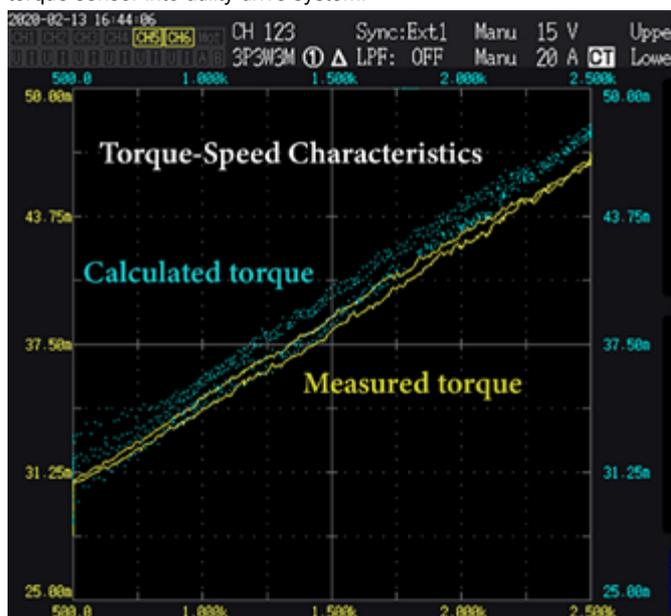

Figure 6: Comparison of measured and calculated torque
Figure 6 shows the calculated and measured torque. Calculated torque is derived by equation (12) with use of derived motor parameters (L_d , L_q), control parameters (i_d , i_q) and K_e , and it fits well with the measured torque. This also means that motor torque can be identified without a torque sensor in case it is not possible to adopt a torque sensor into utility drive system.